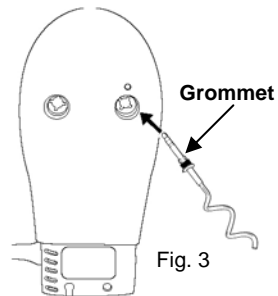

Fig. 3
3. Looking at the under side of the hand mixer, you will see that one of the sockets has a red dot over it. (Fig. 3) Insert the dough hook with the grommet into this socket.